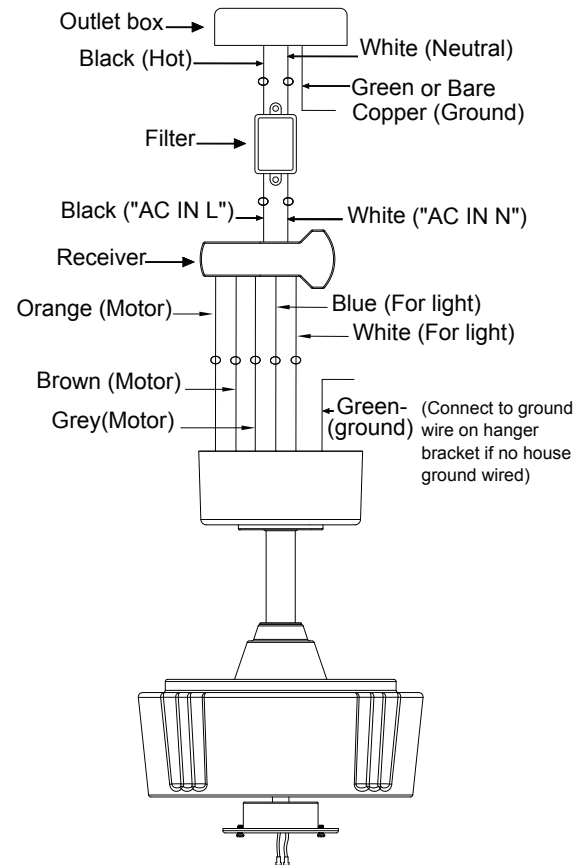

Fig. 14
A. Fan wire connection (Fig. 14)